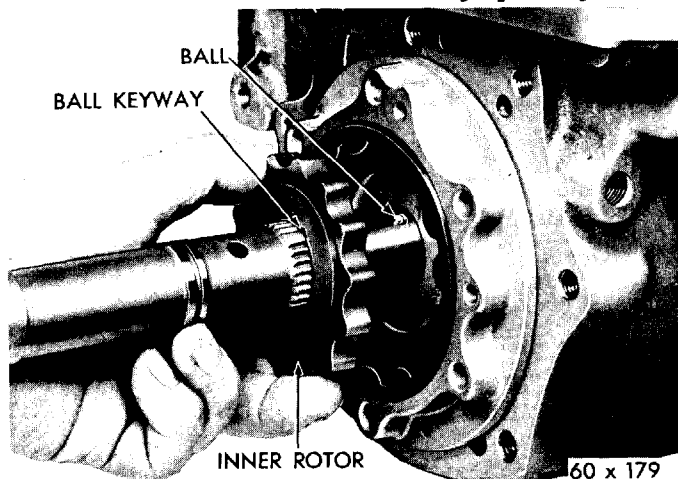
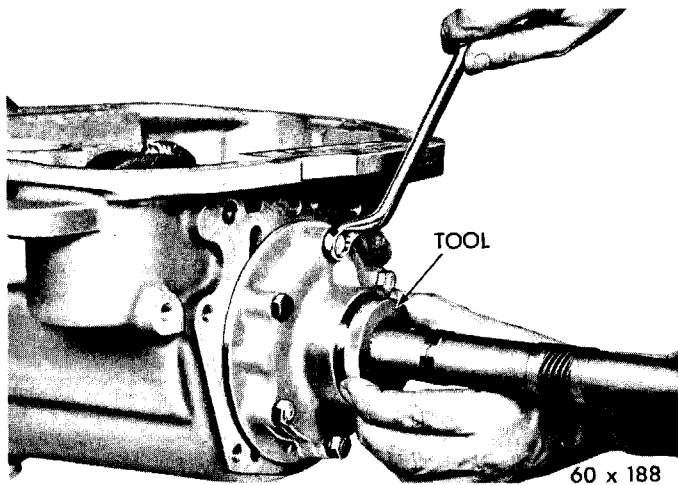

Fig. 27—Removing or Installing Rear Oil Pump Inner Rotor
Fig. 29—Aligning Oil Pump Cover
(1) Remove the extension housing. See Paragraph 21.
(2) Remove the governor and support. See Paragraph 22.
(3) Unscrew the rear oil pump cover retaining bolts and remove cover.
(4) Mark a line across the face of inner and outer pump rotors with dye so that they may be reinstalled in the same relation to each other.
(5) The oil pump inner rotor is keyed to output shaft by a small ball. Therefore, use care in sliding out inner rotor so as not to lose the ball (Fig. 27). Remove outer rotor from the pump body.
- (1) Place outer rotor in the pump body.
- (2) Turn output shaft so inner rotor driving ball pocket is up. Install the ball and slide inner rotor on the output shaft in alignment with the ball (Fig. 27).
- (3) Position outer rotor to align dye marks with inner rotor, then push inner rotor in mesh with outer rotor.
- (4) Install the oil pump cover with the retaining bolts threaded a few turns. Slide the aligning fixture, Tool C-3762 all the way in until it bottoms against rotor (Fig. 29), then retighten the cover bolts evenly to 14-16 foot-pounds torque.
- (5) Install the governor and support.
- (6) Install the extension housing, brake assembly and connect the propeller shaft.
- (7) Connect the parking brake cable.